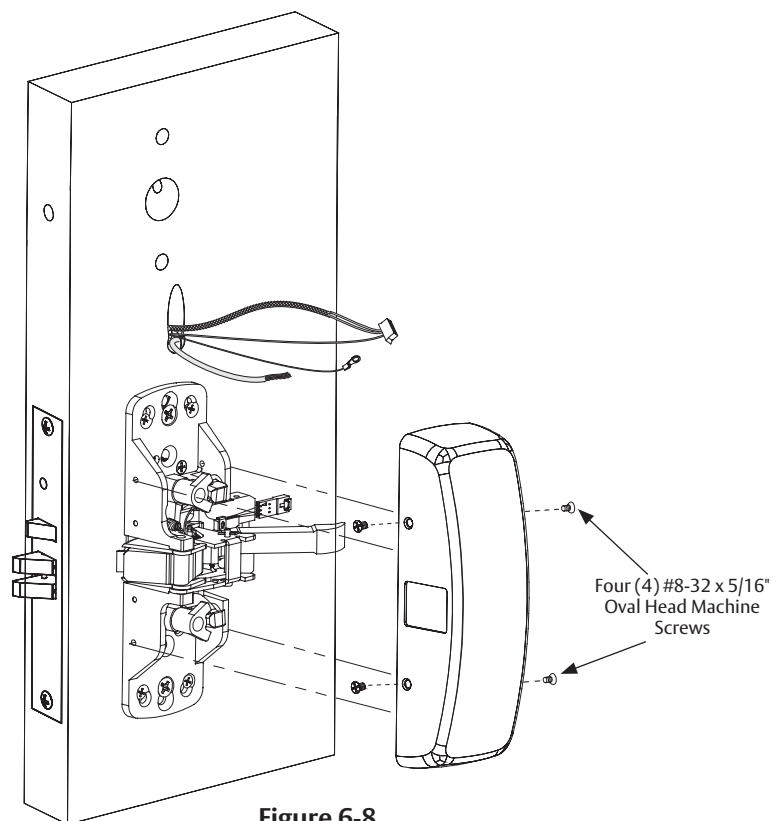

Figure 6-8
Secure chassis cover to chassis using four (4) #8-32 x 5/16" oval head machine screws. (Figure 6-8)